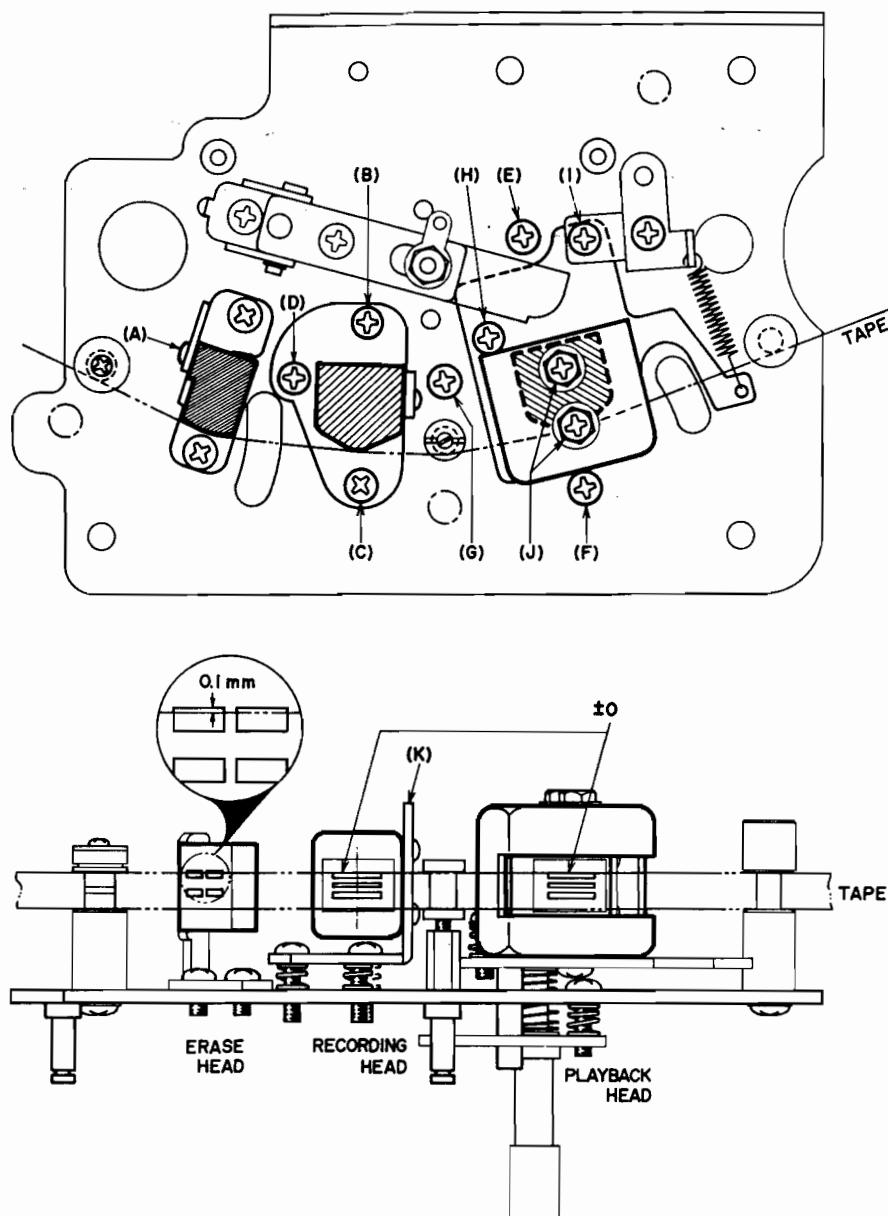

Fig. 15
At P.B. mode, loosen screw (A) shown in Fig. 15 and adjust erase head height so that the upper edge of the tape is about 0.1 mm lower than the left channel head core of the erase head.
At P.B. mode, adjust recording head height by turning screws (B), (C), and (D) shown in Fig. 15 to left and right until the upper edge of the tape and the upper edge of the left channel head core of the recording head are the same height.
- At forward P.B. mode, adjust playback head height by turning screw (I) shown in Fig. 15 to left and right until the upper edge of the tape and the upper edge of the left channel head core of the playback head are the same height.
- At reverse P.B. mode, adjust playback head height by turning screw (H) shown in Fig. 15 to left and right until the lower edge of the tape and the lower edge of the right channel head core of the playback head are the same height.
- d. At forward P.B. mode, turn azimuth alignment adjustment screw (G) to left and right until the output level of both channels is maximum.
- e. After the adjustment outlined in (d) above has been completed, loosen screws (J) and move the head gap side of the playback head to left and right until there is no fluctuation (maximum allowable fluctuation +0.5/-0 dB) in output level (both channels) when tension is applied to the supply reel. Tighten screws (J) to maintain this condition.
- c. At recording mode, turn azimuth alignment screw (D) to left and right and adjust so that the line output level of both channels is maximum and does not fluctuate.
- d. When the above adjustment has been completed, adjust the gap side of the recording head by bending recording head installation angle (K) shown in Fig. 15 to left and right until the line output level (both channels) does not fluctuate (maximum allowable fluctuation +0.5/-0 dB) when tension is applied to the supply reel.